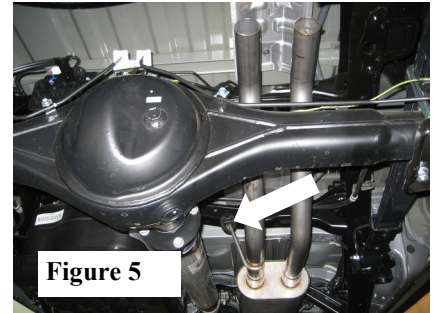

Figure 5
2. Place a clamp over the expanded ends of the **Muffler Assembly** and insert the inlets to left and right side outlets of the **Front Pipe Assemblies** inserting the hangar into the rubber isolator. Do Not tighten the clamps. (See Fig. 5)